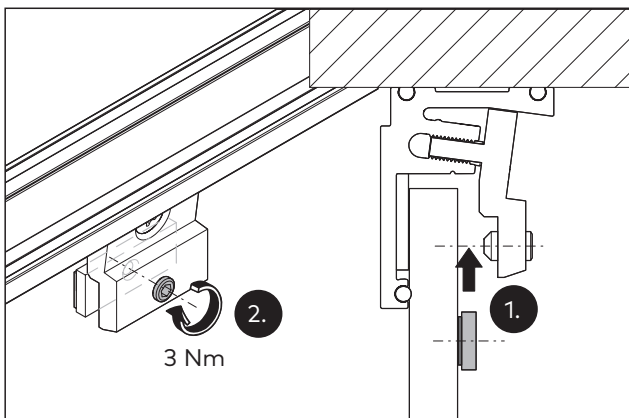

Fig. 9 Inserting clamping plates
7. Insert the clamping plates with gaskets onto the glass in the overpanel clamping pieces (Fig. 9/1).
8. The grub screw must hit the countersink of the plate. When the grub screw hits the countersink, tighten the grub screw (Fig. 9/2).